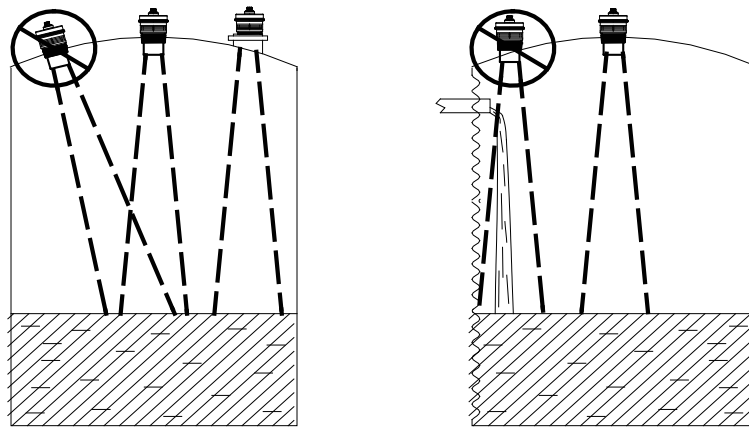

FIGURE 2.1
- Mount your MNU sensor so that it has a clear, perpendicular sound path to the surface being monitored. Your sensor should be mounted away from tank or vessel walls and inlets (see Figure 2.1).